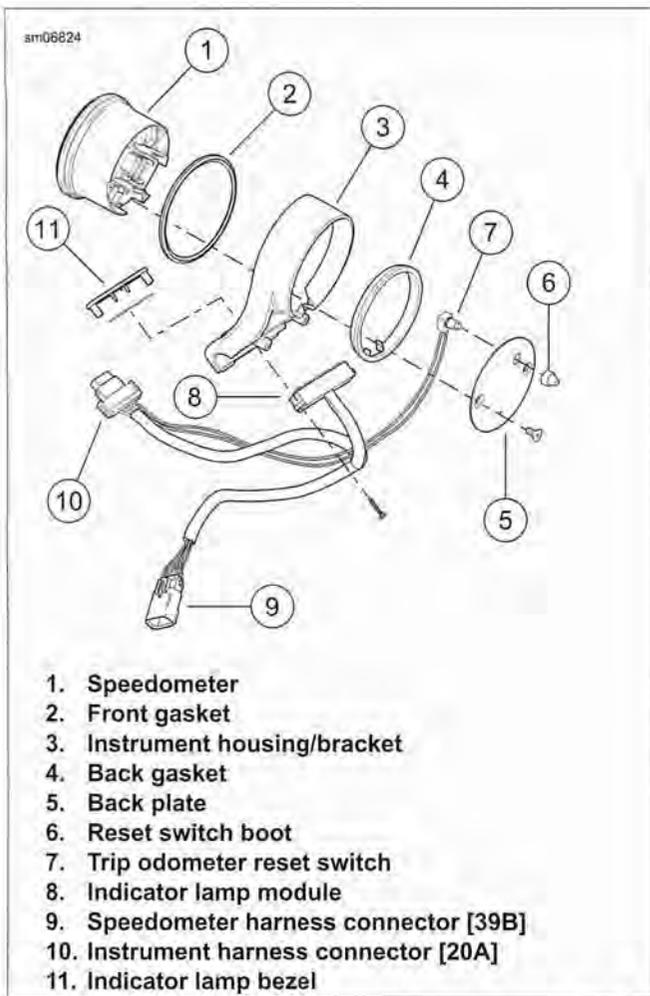

Figure 6-13. Speedometer Components: XL 883L/N, XL 1200L/N
- **XL 883N and XL 1200L/N and XL 1200CP Models with Mini Ape Handlebars:** See Figure 6-13.